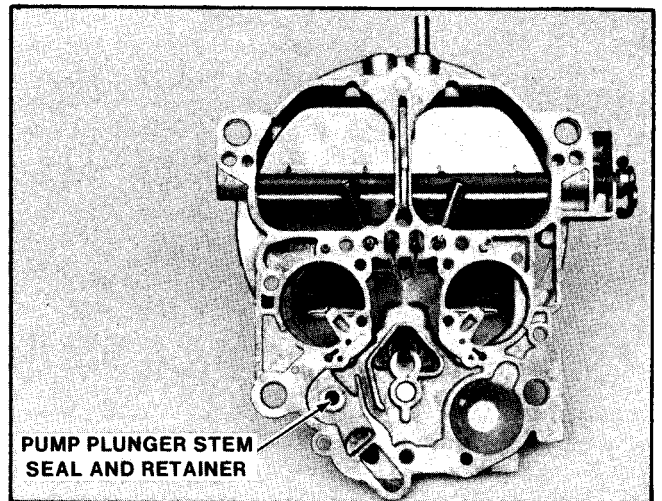

Figure 48 Pump Plunger Stem Seal
12. For later models that use a pump plunger stem seal (Figure 48), remove seal by inverting air horn and use Tool BT-7954 or equivalent to remove seal retainer ring. Discard retainer and seal.